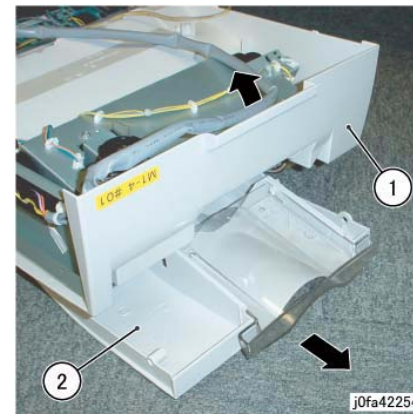

Figure 3 Removing the Top Tray
9. Remove the Top Tray (Figure 3):